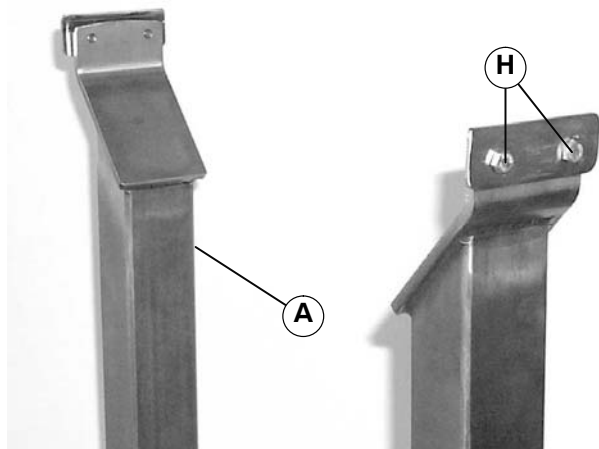

Figure 2
2. For each side of stand (A of Figure 2), loosen two M6 clamp plate screws (H).